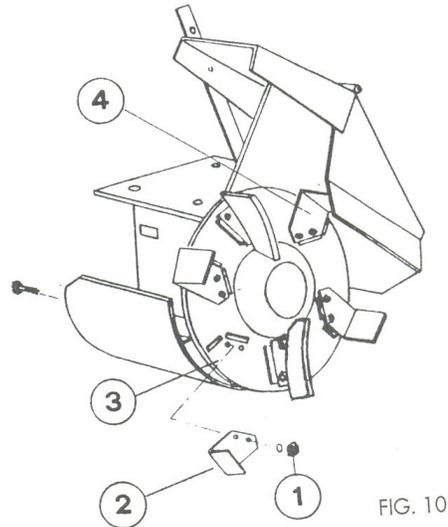

FIG. 10
9.1 *Flail replacement* (FIG. 10)